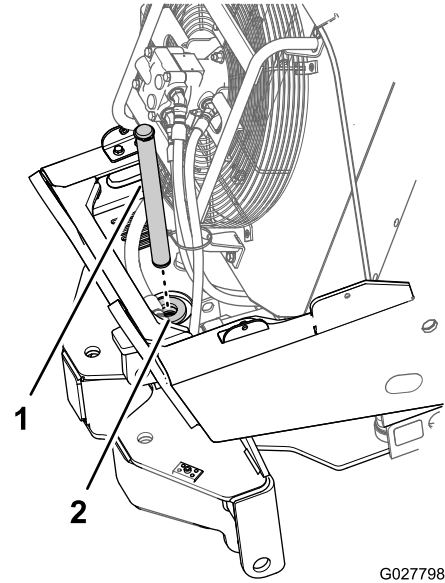
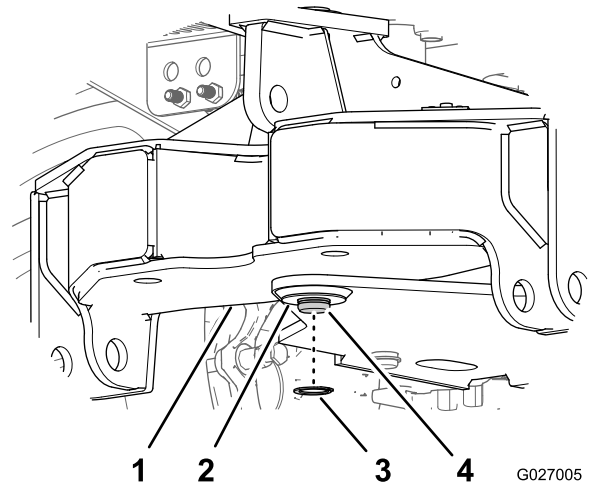

Figure 25
Figure 26
11. Insert the pivot pin (1-1/2 x 15-1/2 inch) through the mounting frame, washers, and pivot frame bushings and secure the pin with a snap ring (1-3/8 inch) as shown in Figure 25 and Figure 26.